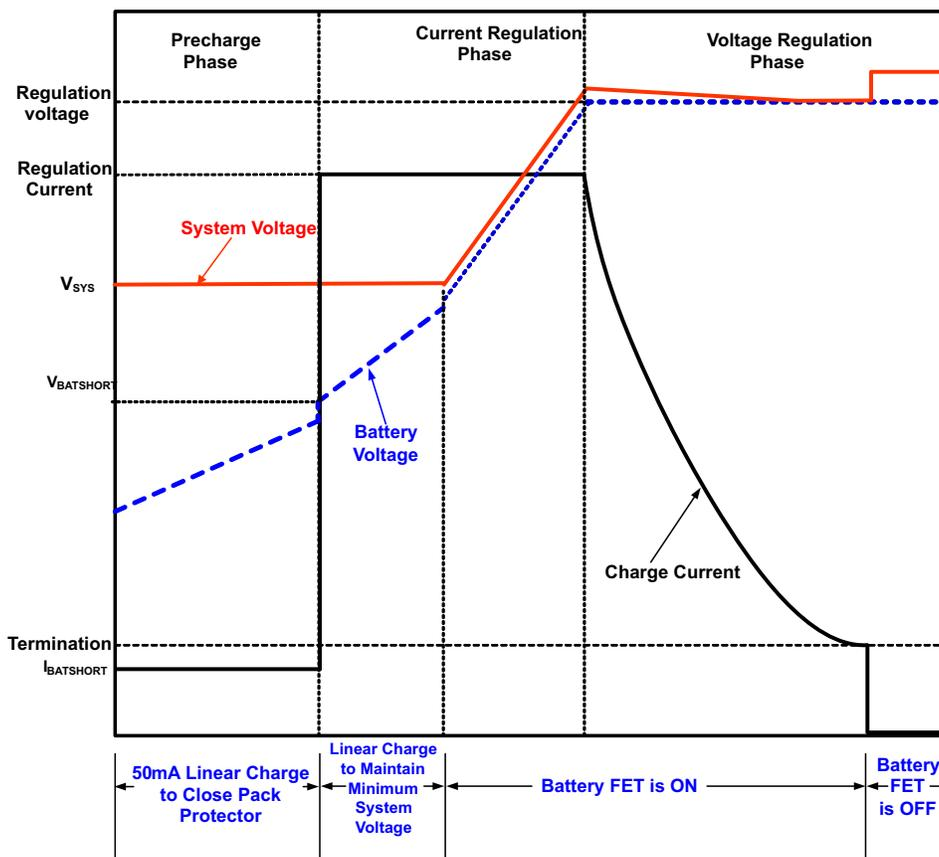

Figure 2. Typical Charging Profile of bq24278
Circuit of Figure 2,  $V_{U_{VLO}} < V_{IN} < V_{OVP}$  AND  $V_{IN} > V_{BAT} + V_{SLP}$ ,  $T_J = 0^{\circ}\text{C} - 125^{\circ}\text{C}$  and  $T_J = 25^{\circ}\text{C}$  for typical values (unless otherwise noted)
Charging is done through the internal battery MOSFET. When the battery voltage is above 3.5V, the system output (SYS) is connected to the battery to maximize the charging efficiency. There are 5 loops that influence the charge current; constant current loop (CC), constant voltage loop (CV), thermal regulation loop, minimum system voltage loop (MINSYS) and input voltage dynamic power management loop ( $V_{IN-DPM}$ ). During the charging process, all five loops are enabled and the dominant one takes control. The bq24278 supports a precision Li-Ion or Li-Polymer charging system for single-cell applications. The minimum system output feature regulates the system voltage to a minimum of  $V_{SYS(REG)}$ , so that startup is enabled even for a missing or deeply discharged battery. Figure 2 shows a typical charge profile including the minimum system output voltage feature.
The charge current is regulated to  $I_{CHARGE}$  until the battery is charged to the regulation voltage. Once the battery voltage is close to the regulation voltage,  $V_{BAT(REG)}$ , the charge current is tapered down as shown in Figure 2 while the SYS output remains connected to the battery. The voltage regulation feedback occurs by monitoring the battery-pack voltage between the BAT and PGND pins.